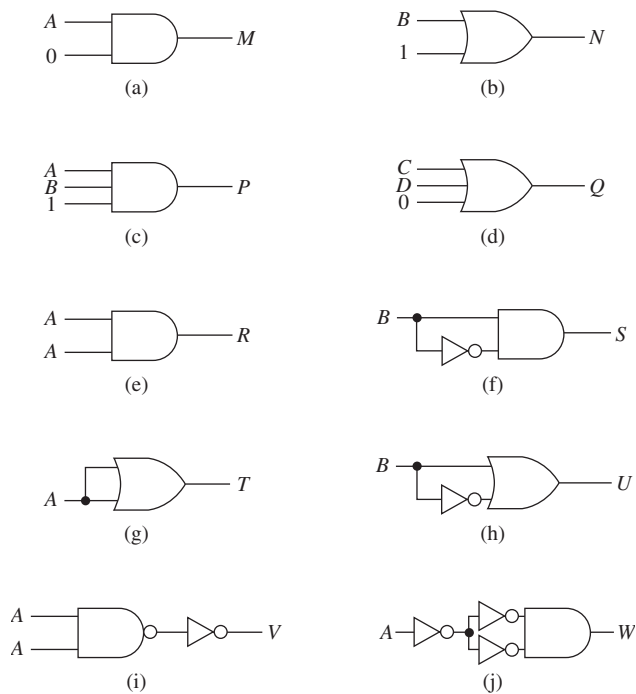

Figure P6
6. Using the 10 Boolean rules presented in Table 2, determine the outputs of the logic circuits shown in Figure P6.